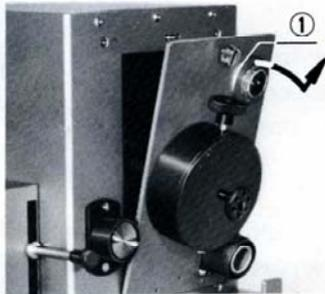

Fig. 5
- 1) Loosen the socket clamping screw ①, and lift up the socket as shown by the arrow in Fig. 5. At this time, pay attention to the following: